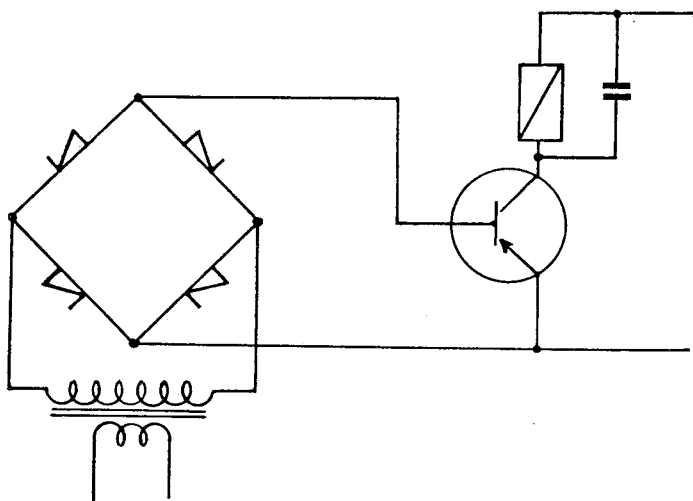

Fig. 33: Circuit responding to an increase in pulse repetition rate
**I**T is possible, if one wants the maximum value for money, to control another function over a single channel by changing the pulse rate while retaining the normal mark-space ratio variation for primary use. When no such consideration applies, the normal pulse rate will be kept as high as possible, to smooth out the ripple in the command signal to the servo system. Assuming that a lower frequency of pulsing is acceptable for normal primary use, Fig. 33 gives a type of circuit which will respond to an increase of pulsing rate.